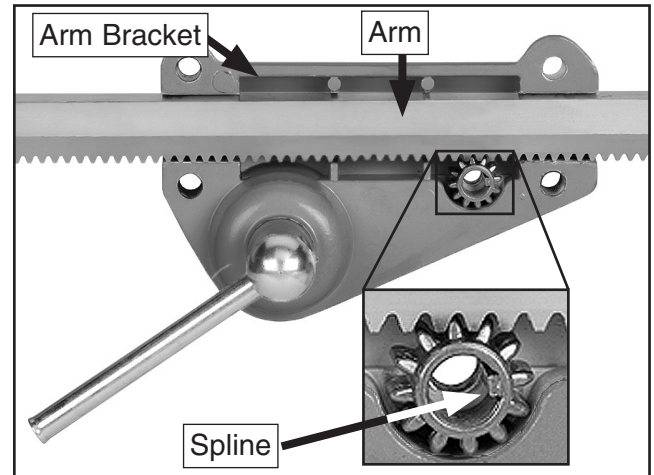
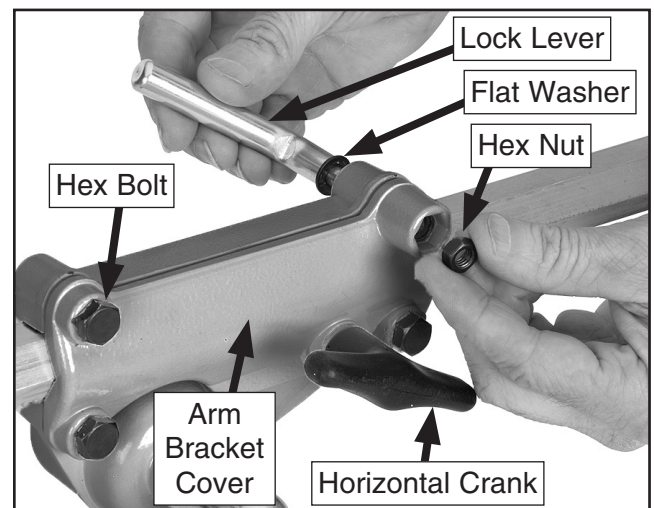

Figure 9. Arm bracket gearing.
Figure 10. Assembling arm bracket.
9. Place the arm into the arm bracket so the teeth of the gear and arm mesh as shown in **Figure 9**.
10. Install the arm bracket cover and lock lever with the remaining hex bolts washers and nut as shown in **Figure 10**.
11. Insert the horizontal crank (**Figure 10**) completely so it engages the spline in the gear (**Figure 9**).